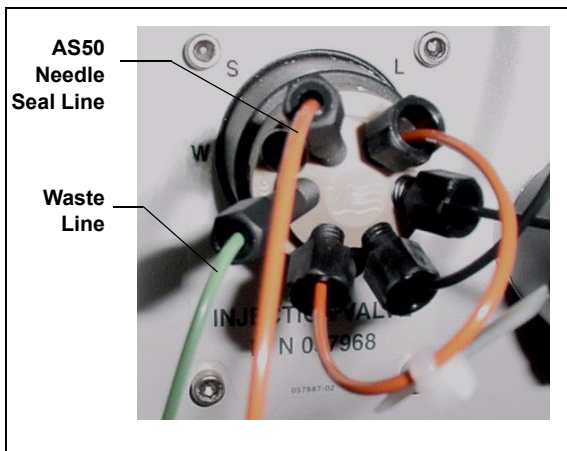
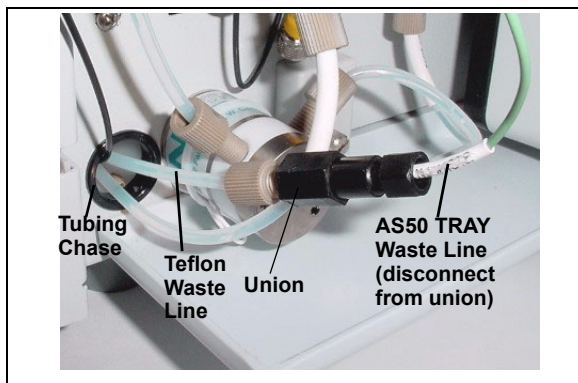

Figure B-39. ICS-1000 Injection Valve
Figure B-40. Injection Valve Waste Line Union
4. Connect the needle seal line from the AS50 to port **S (5)** on the injection valve (see Figure B-39).
The green waste line that is connected to port **W (6)** on the injection valve (see Figure B-39) is connected with a union to a Teflon waste line (see Figure B-40) and routed through the tubing chase to the ICS-1000 rear panel.